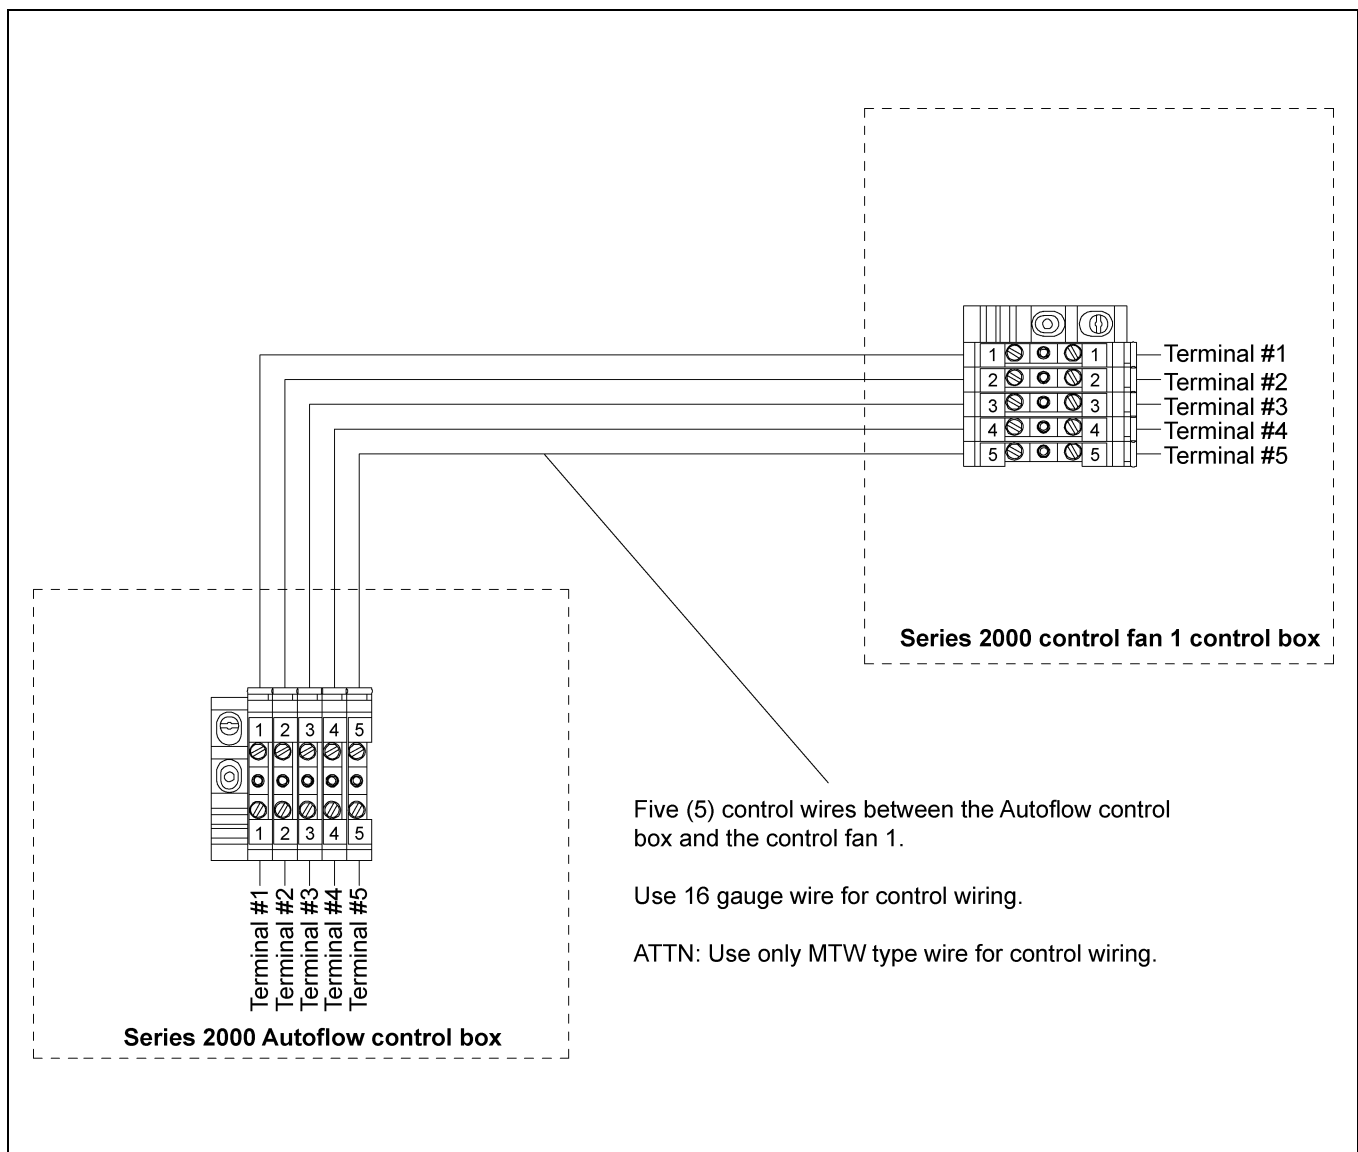

Figure 4D Control Fan 1 Dip Switch Setting: #1 - "OFF"/All Others - "ON"
1. Run five (5) control wires from the Autoflow control box to the control fan 1 unit.
2. Connect the wires as shown in Figure 4D.